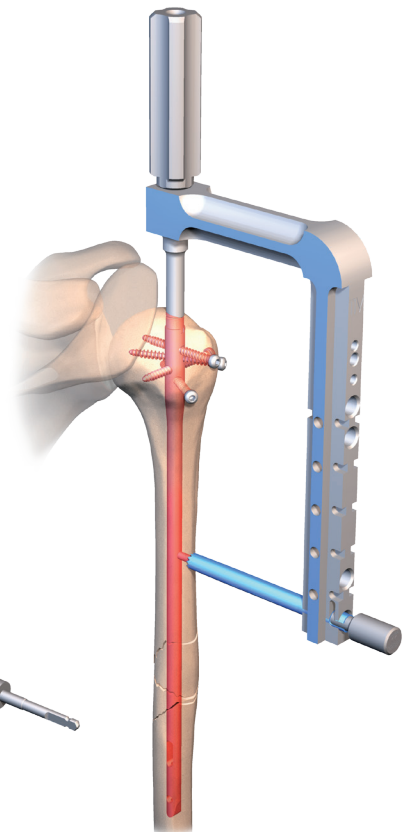
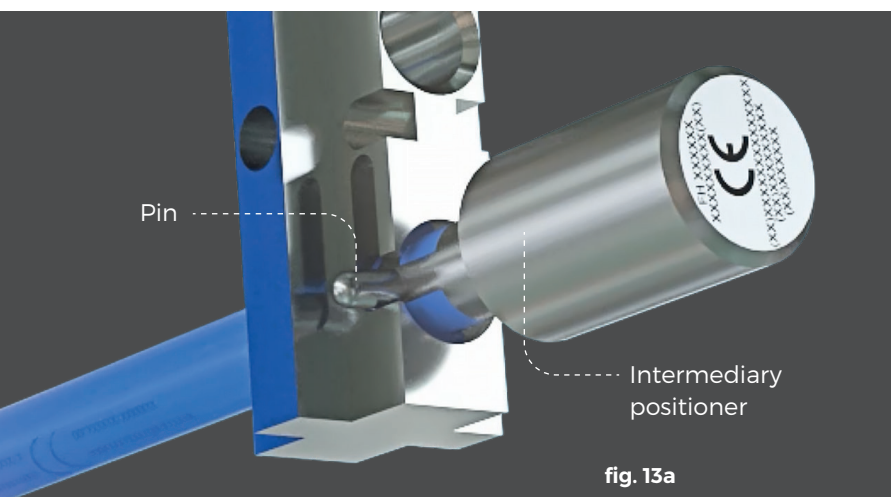

fig. 13
fig. 13a
- Insert the intermediate positioner (**ref. 253 675**) into the barrel (**fig. 13**), then rotate to allow the pin to be inserted into the hoop (**fig. 13a, 13b and 13c**) ensuring that the positioner is locked.